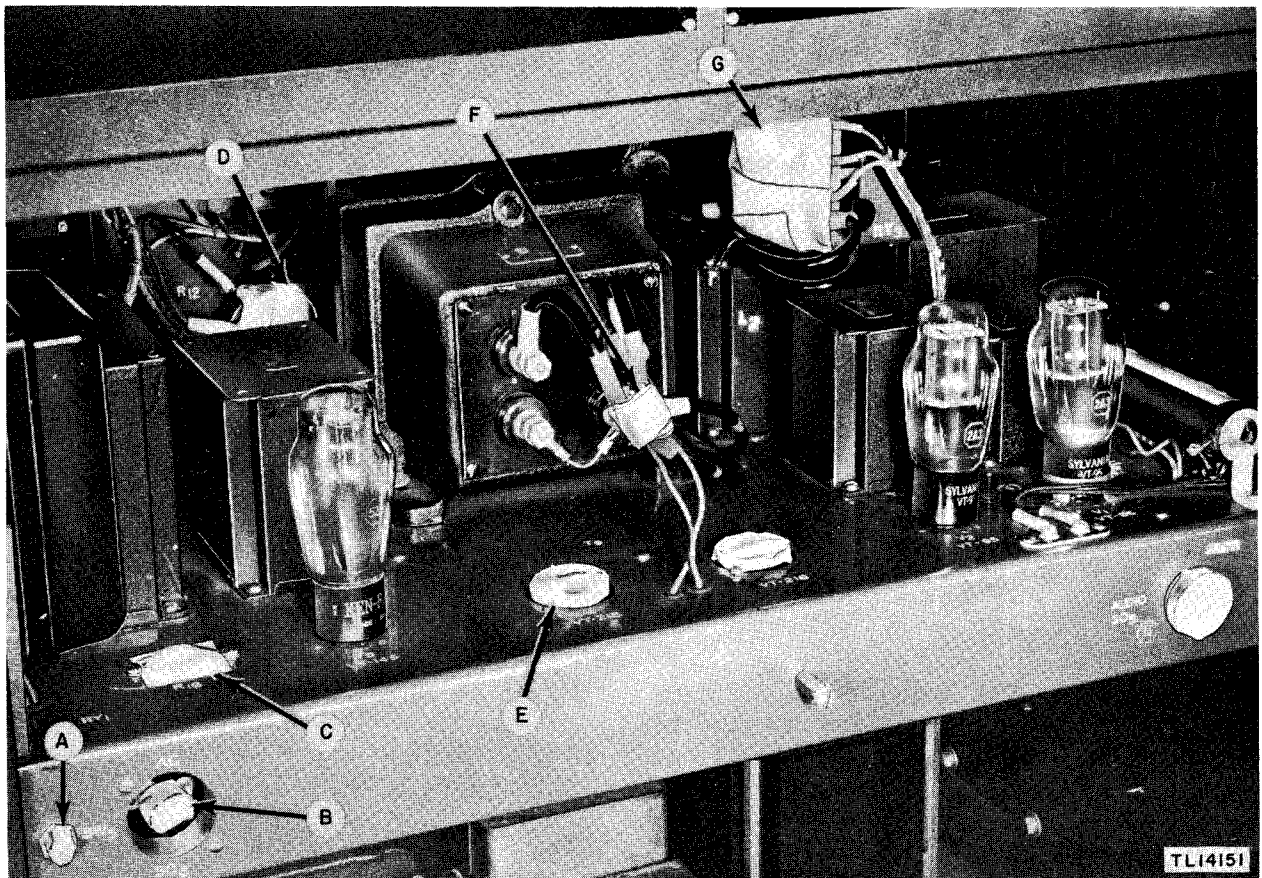
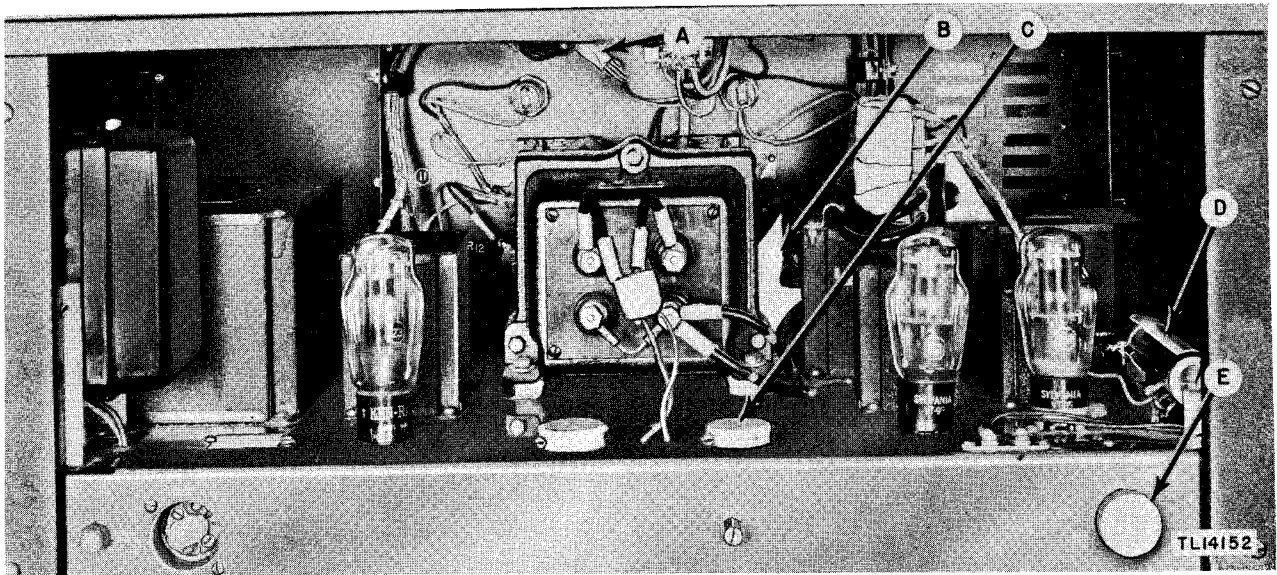
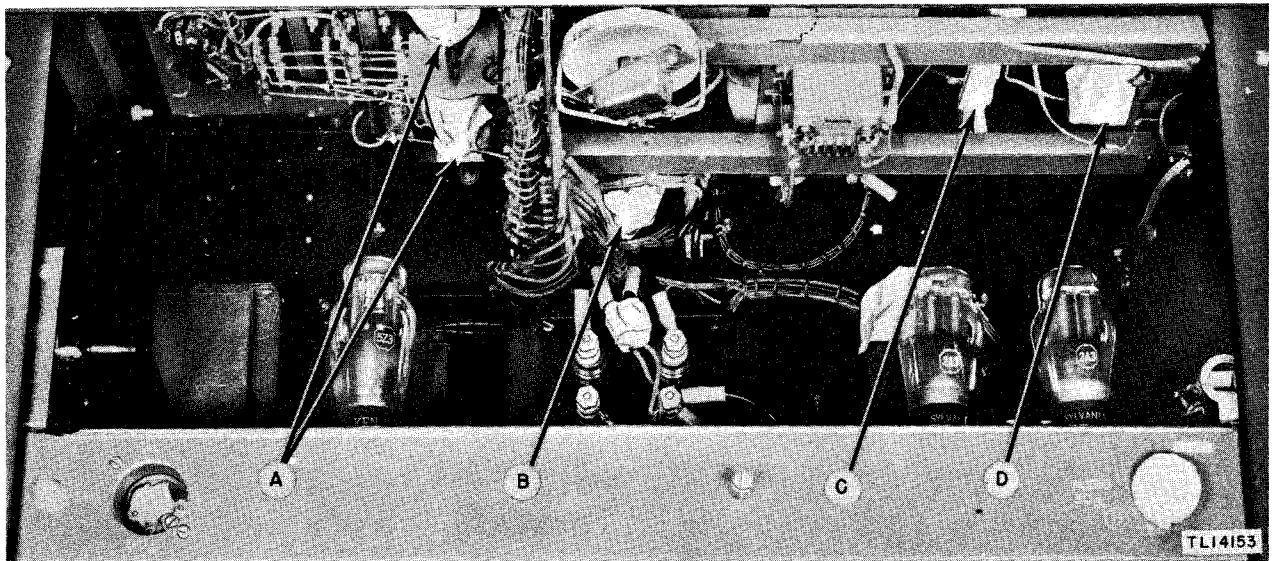

Figure 32. Radio Transmitter BC-610-E—rear interior view of chassis, showing method of masking.
Figure 33. Radio Transmitter BC-610-E—rear interior view of chassis, showing method of masking.
Figure 34. Radio Transmitter BC-610-E—bottom interior view of r-f chassis, showing method of masking.
b. DISASSEMBLY. (1) Remove seven screws holding cover plate to back of the set; remove plate.
(2) Tilt the set forward, or place it on its face. Be careful not to rest it on any of the projecting dials or knobs on the front panel.
(3) Remove resistor  $R_{19}$  from its socket. This resistor is not to be treated.
(4) Remove Tubes VT-218 from sockets  $V_3$  and  $V_4$ . These tubes are not to be treated.
(5) Remove capacitor  $C_{28}$  from its contact clips. This capacitor is not to be treated.
(6) Remove antenna coil unit. Antenna coils are not to be treated.
(7) Remove crystals from tuning units. Do not treat crystals.
(8) Clean all dirt, dust, rust, fungus, oil, grease, etc., from the equipment to be processed.
c. MASKING. Cover the following components with masking tape as shown in figures 32, 33, 34, 35, and 36.
(1) Interlock switch  $SW_5$ , item A, figure 32.
(2) Contacts on socket  $SO_6$ , item B, figure 32.
| (3) Socket of resistor $R_{10}$ , item C, figure 32.              | (11) Sliding contact area of variable resistor $R_{11}$ , item D, figure 33. |
| (4) Variable resistor $R_{12}$ , item D, figure 32.               | (12) Audio socket $SO_5$ , item E, figure 33.                                |
| (5) Tube socket $V_4$ , item E, figure 32.                        | (13) Wafers of BAND CHANGE switch, item A, figure 34.                        |
| (6) Contacts on four leads to Tubes VT-218, item F, figure 32.    | (14) EXCITATION METER switch $SW_6$ , item B, figure 34.                     |
| (7) Relay $RY_3$ , item G, figure 32.                             | (15) Underside of jacks which receive antenna coil, item C, figure 34.       |
| (8) Contacts of push-button switch $SW_{12}$ , item A, figure 33. | (16) Relay $RY_4$ , item D, figure 34.                                       |
| (9) Variable resistor $R_{18}$ , item B, figure 33.               |  |
| (10) Tube socket $V_3$ , item C, figure 33.                       |  |